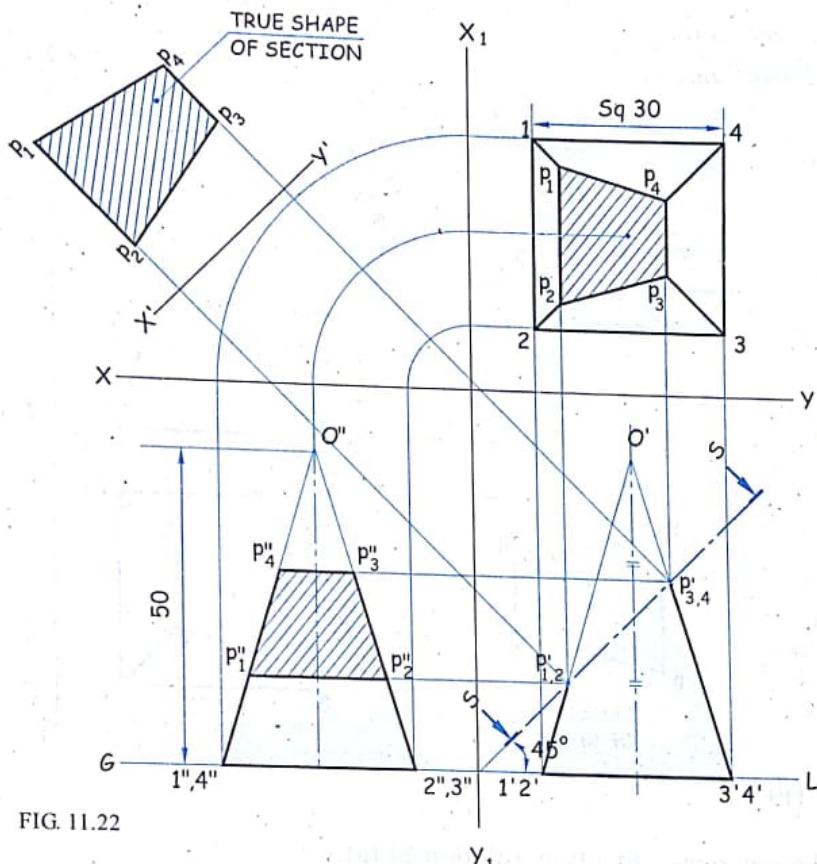

FIG. 11.22
Refer figure 11.22.
- (i) Draw the projectors through p'_1, p'_2, p'_3, p'_4 perpendicular to section plane S-S from F.V. as shown in figure 11.22.